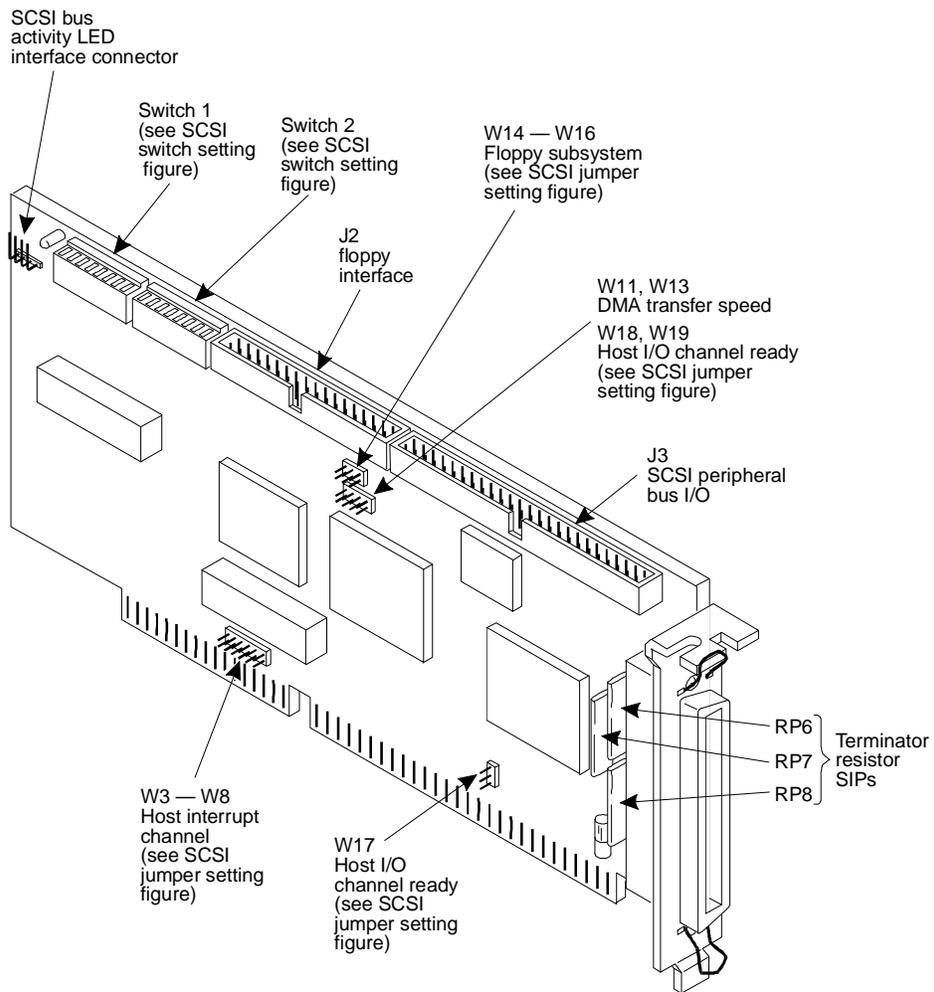
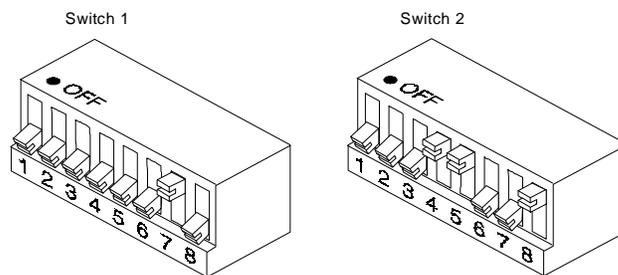
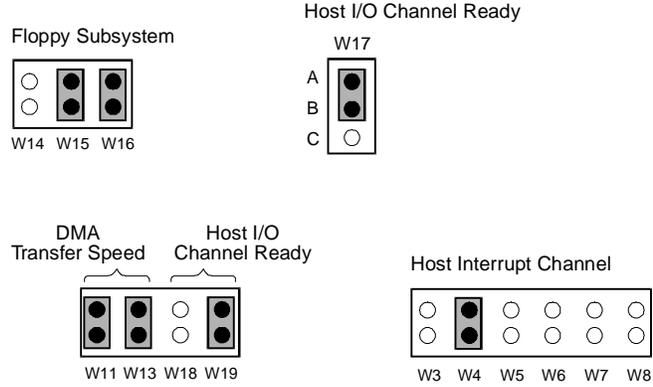

Figure 9-7. SCSI Host Adapter Controller Card
Figure 9-8. SCSI Controller Card Switch Settings
Figure 9-9. Jumper Settings for the SCSI Host Adapter Controller Circuit Card
The SCSI Host Adapter Controller circuit card (Figure 9-7) controls the hard drives, the floppy disk drive, and the cartridge tape drive, as well as the SCSI Bus LED front chassis panel indicators for these drives.
Figure 9-7 shows the location of the switches on the SCSI Host Adapter Controller circuit card. Figure 9-8 shows the switch settings. Table 9-1 and Table 9-2 provide a summary of the switch settings (the recommended settings are shown in bold type).
Figure 9-7 shows the locations of the jumpers on the SCSI Host Adapter Controller circuit card. Figure 9-9 shows the correct settings for these jumpers. Table 9-3 provides a summary of the jumper settings (the recommended settings are shown in bold).
1. Orient the card as shown Figure 9-7.
2. Ensure that the three terminating resistor SIPS are installed on the card (these are labeled as RP6, RP7, and RP8 in Figure 9-7).
4. Locate the jumpers on the card (these are labeled in Figure 9-7). Verify that they are set as shown in Figure 9-9.